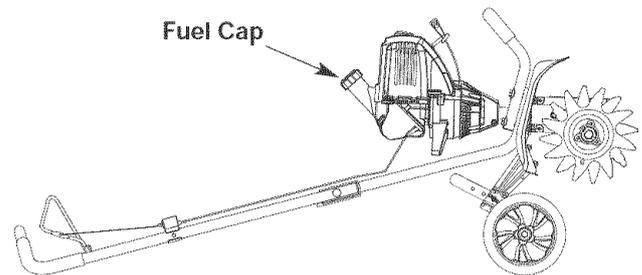

Fig. 9
**NOTE:** Fill or add fuel to the tank only when the cultivator is in a horizontal position (Fig. 9).